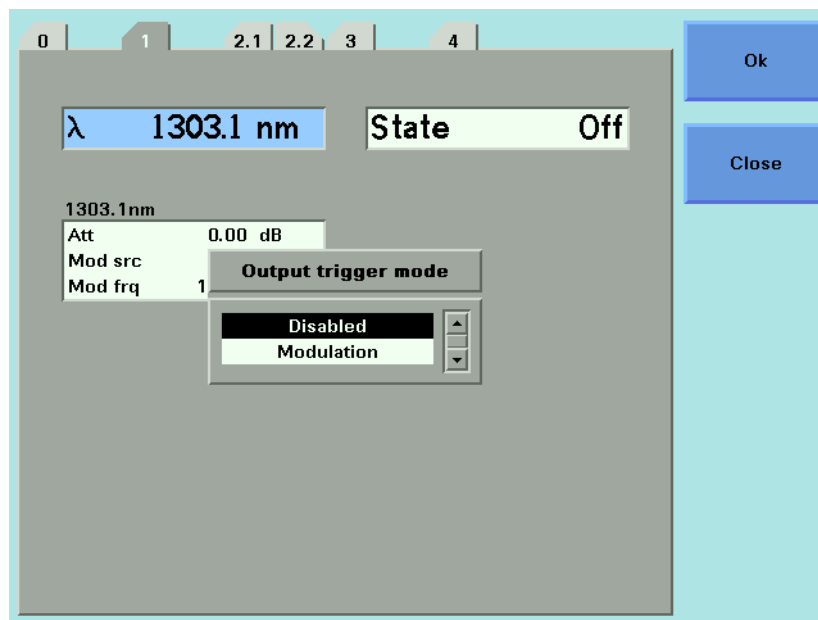

Figure 62 Output Trigger Mode
- 3 Move to <Output Trigger Mode>, by using the cursor key, and press *Enter*. You will see the screen in Figure 62.